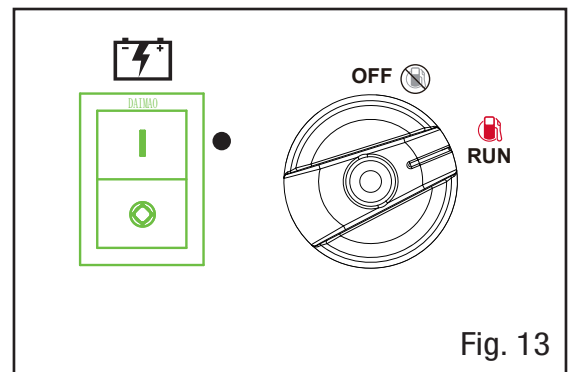

Fig. 13
2. Turn the FUEL switch (Fig. 13) to the “RUN” position.
2. Press the battery switch “ON” (Fig. 13).